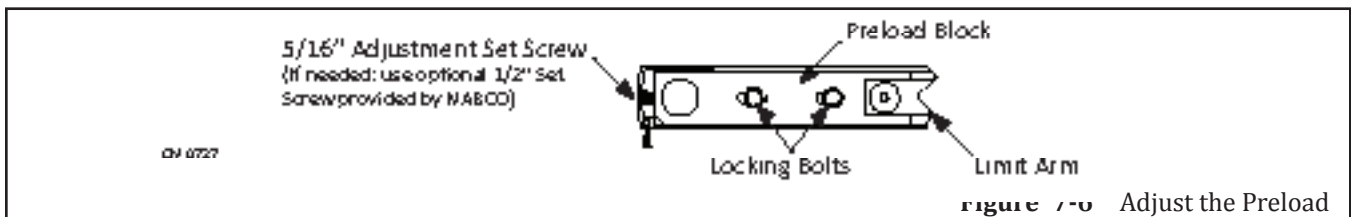

Figure 7-6 Adjust the Preload
3. Go to the Preload Block located inside Top Rail. Please see Figure 7-6.
4. Loosen (2) Locking Bolts.